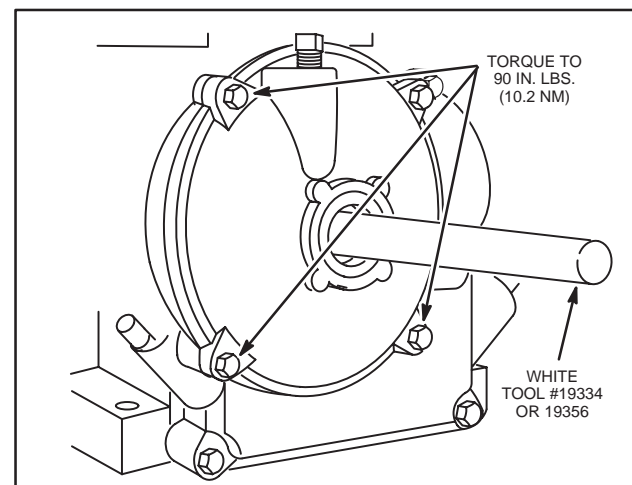

Fig. 135 – INSTALLING GEAR CASE COVER
11. Torque four screws to 90 in. lbs. (10.2 Nm), Fig. 135.